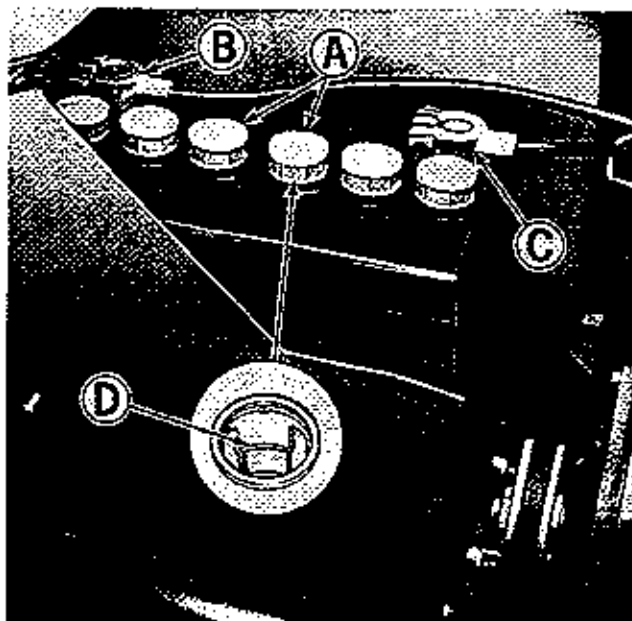

Figure 32. Tractor battery visible when hood is raised.
**CHECK BATTERY WATER LEVEL:** See figure 32. Every 25 hours, or more often when operating the tractor in temperatures above 72°F, remove the 6 battery caps (A) and check the water level in each cell. When the battery is in use, water evaporates from it. Never allow the water level in the battery to get below the top of the plates. Fill the battery to the marking ring with distilled water as shown in figure 32. If distilled water is not available, clean tap water may be used.
**CLEAN BATTERY CABLES:** See figure 32. Every 100 hours or once a year the battery cables (B) and (C) should be removed and cleaned. **CAUTION: ALWAYS REMOVE THE NEGATIVE GROUND CABLE (C) FIRST AND REPLACE IT LAST.** Clean the battery with soap and water to remove all dirt, oil, and corrosion from the battery surface. Do not allow foreign material or cleaning solution to get inside the battery. Clean the terminals and battery clamps with a wire brush. Replace and tighten securely. After tightening coat the terminals and clamps liberally with a coat of grease or vaseline to inhibit corrosion.